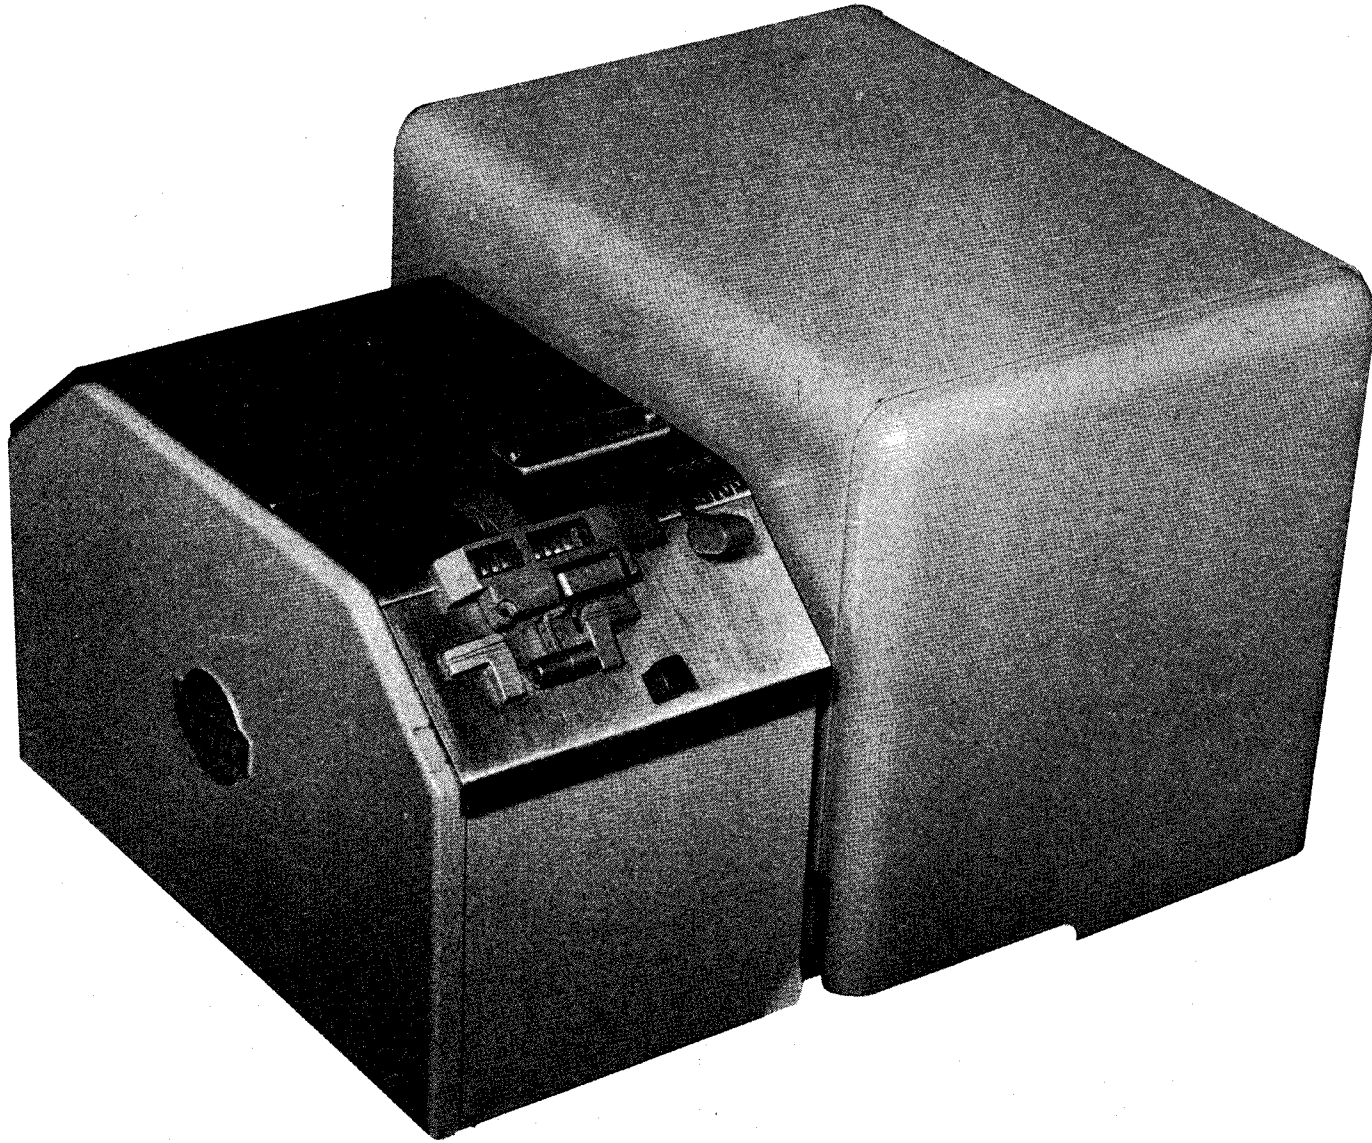
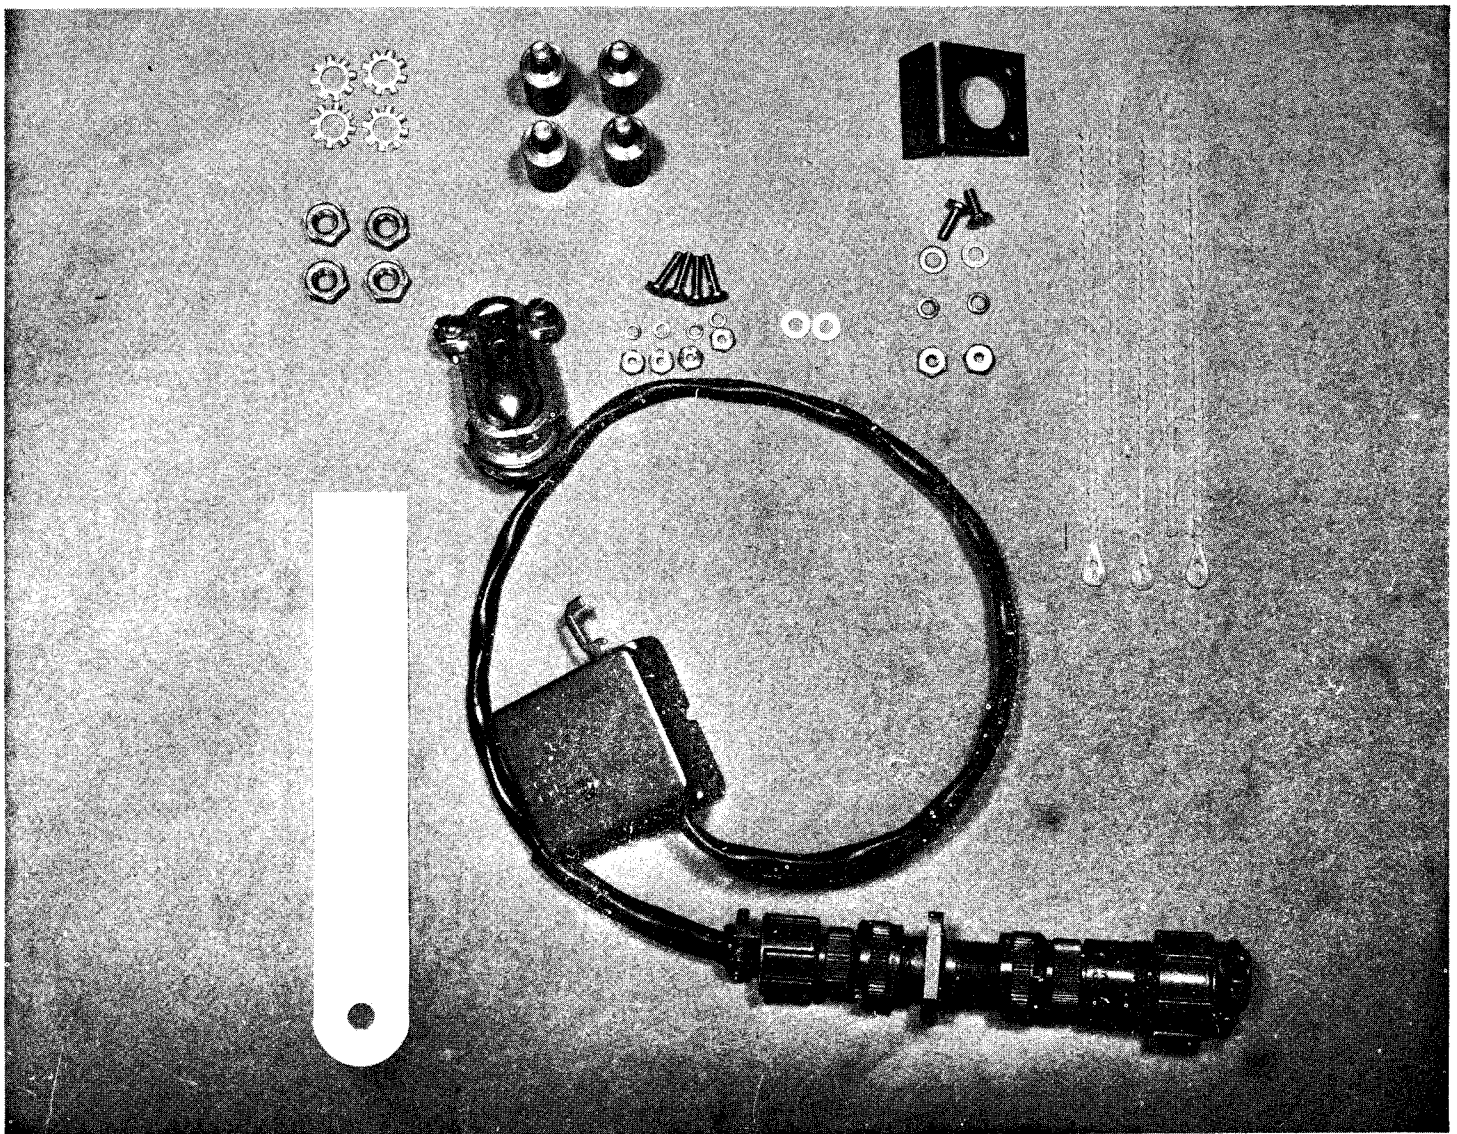

Figure 1.1 TT-187A/UG Transmitter-Distributor
Figure 1.2 TT-187A/UG and TT-187B/UG NIK Modification Kit
2. It provides machine to machine interface between the TT-187A/UG and TT-187B/UG Transmitter-Distributor and the associated cryptographic system. The TT-187A/UG Transmitter-Distributor is shown in Figure 1.1. The NIK modification kit is shown in Figure 1.2.